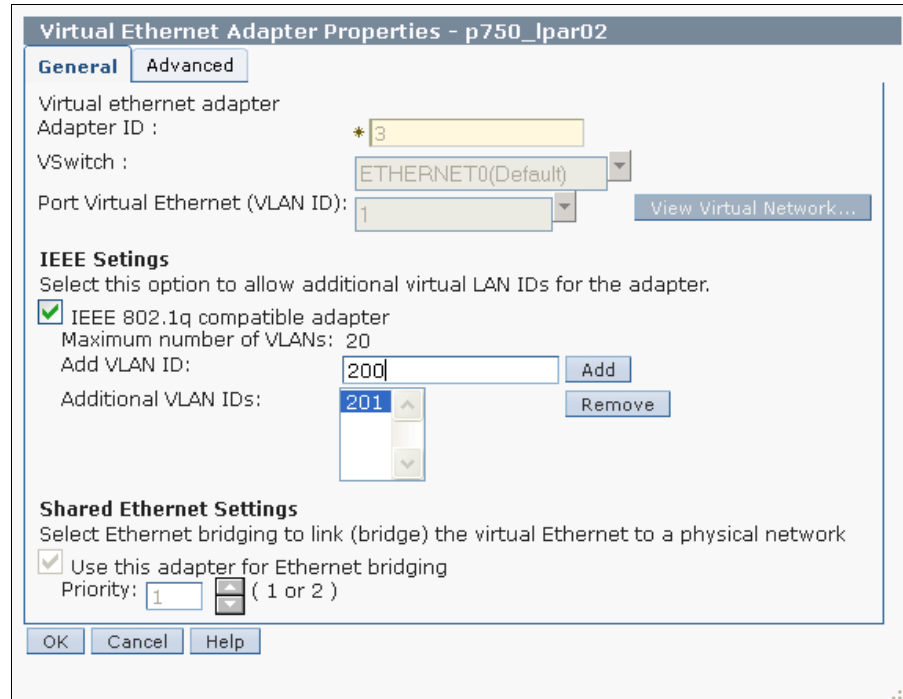

Figure 8-3 Adding VLAN 200 to the additional VLANs field
3. Modify the list of VLANs to include the required VLANs. In the example in Figure 8-3, VLAN ID 200 is being added. More than one ID can be added by supplying a comma-separated list in the **New VLAN ID** field. To remove VLANs, select them in the **Additional VLANs** list and click **Remove**.